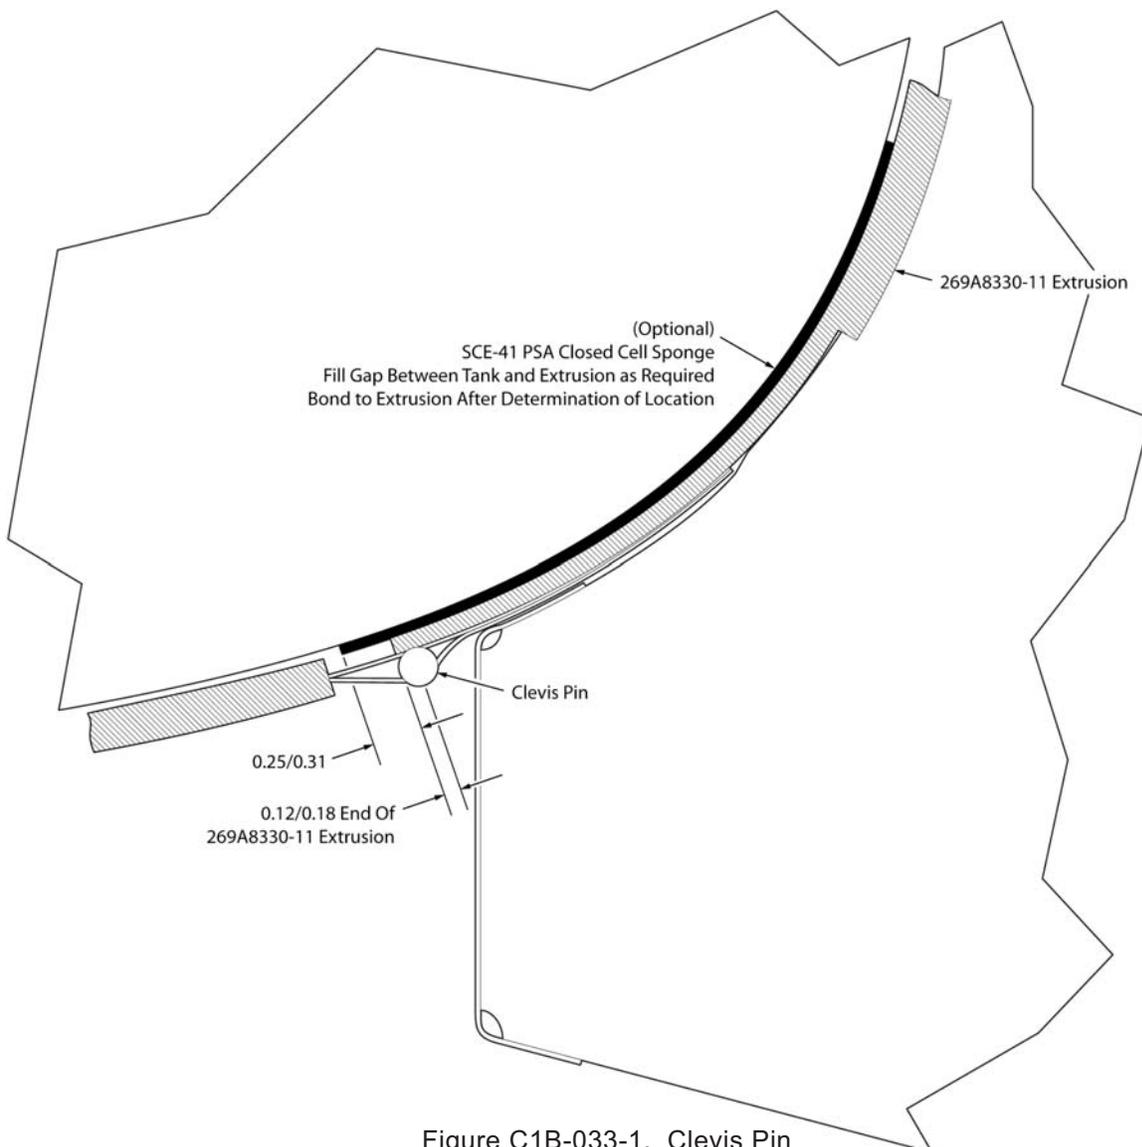

Figure C1B-033-1. Clevis Pin
If rubber extrusion is installed as shown in Figure C1B-033-1, proper clearances have been established and there is no evidence of contact or chaffing then no further action is required. Record compliance with this Service Bulletin in the aircraft records.
- d. Trial fit a new length of 269A8330-11 extrusion on the seat beam and trim to .12 to .18 inch past the center line of the clevis pin position as shown in Figure C1B-033-1. Using waterproof cement, bond extrusion to vertical beam and portion of stainless steel strap attached to vertical beam.
- f. Check for proper clearance of clevis pin head. Verify clearance after fuel tank has been fueled. If there is not adequate clearance, repeat Step b. above and add additional layers of SCE-41 PSA closed Cell Sponge, as required, as shown in Figure C1B-033-1.
- b. Measure depth of chafed area from surrounding bare metal surfaces. Depth is not to exceed .004 inch deep. If damage exceeds .004 inch, remove tank from service and contact Schweizer Customer Service at HSI – Helicopter Support, Inc. (203) 416-4000 or Email [schweizerhsi@hsius.com](mailto:schweizerhsi@hsius.com).